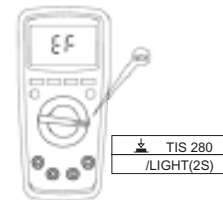

Figure 12
9. NCV Non-contact AC voltage sense (See Figure 12)